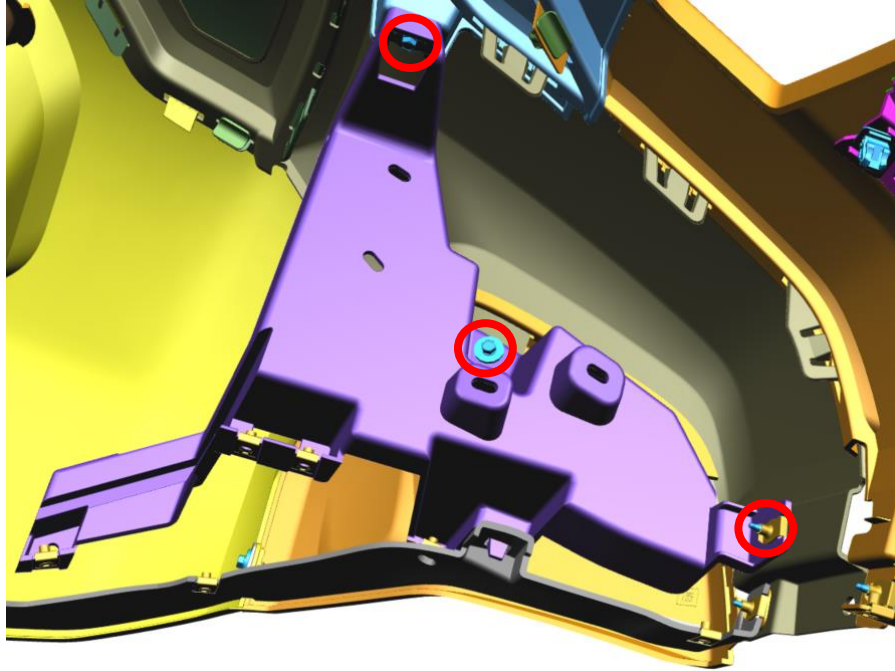

Figure 8 – Passenger Side Plastic Brace
- a. Remove [3] M4 bolts (M7 Socket) per side and discard Plastic Brace – Fig. 8